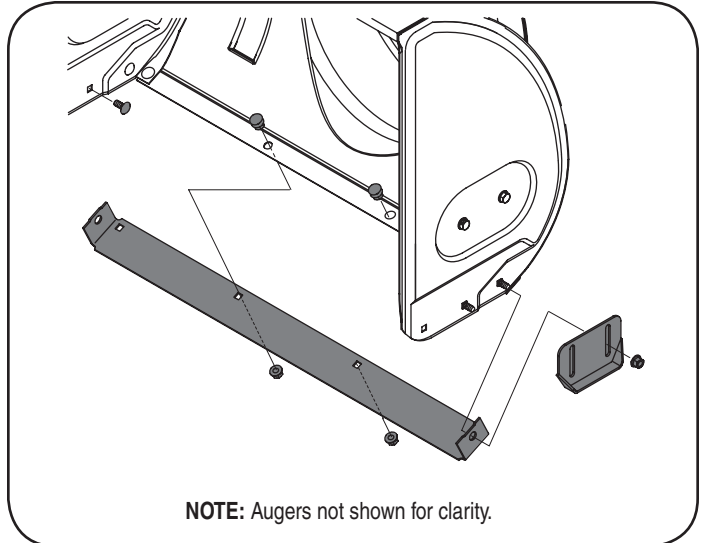

Figure 17
2. Reassemble new skid shoes with the four carriage bolts (two on each side) and hex flange nuts. Refer to Figure 17.